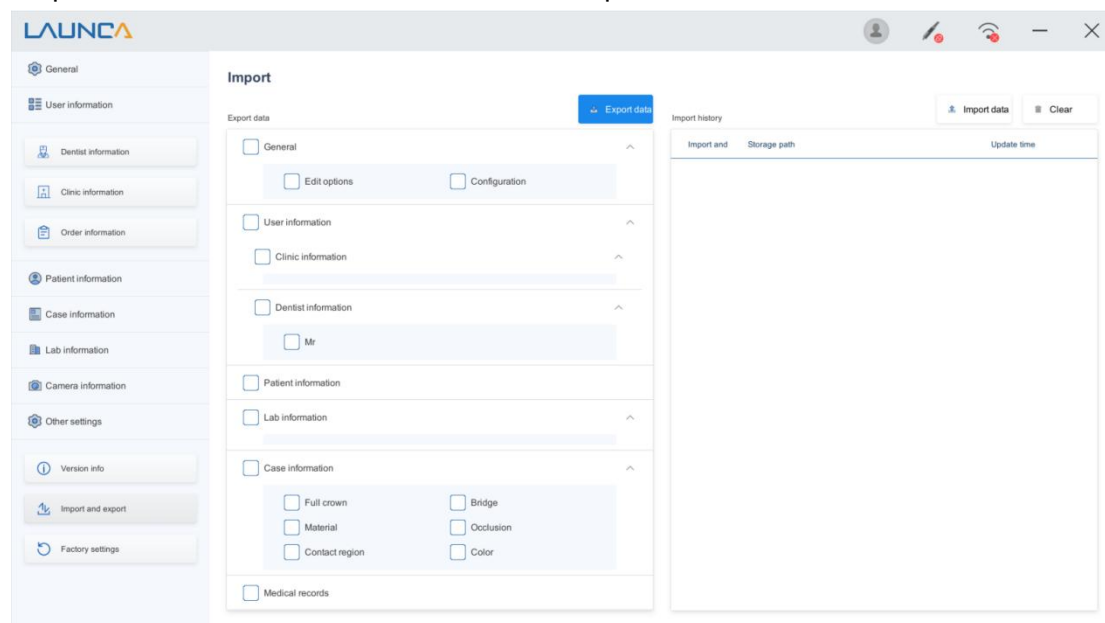

Fig. 3-19 Data Import/Export
**Import and Export:** The administrator can export the selected data to an XML file, as shown in Fig. 3-19. Under "Select Data", check the general information you want to export and click "Export Data" on the upper right corner. If you want to import data, click the "Import Data" button to select an XML files to import.